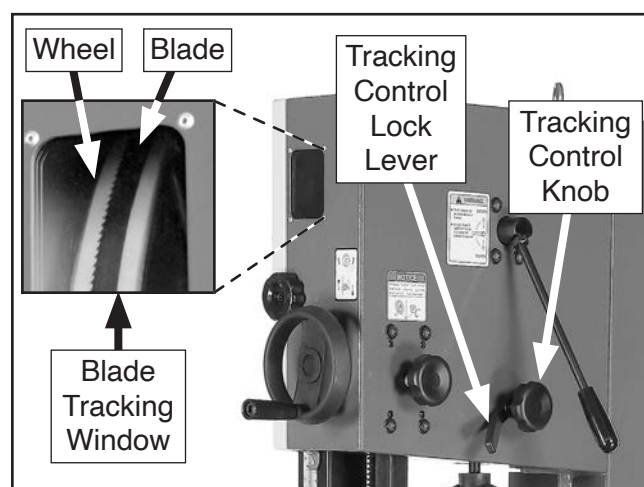

Figure 41. Blade tracking controls.
6. Loosen tracking control lock lever on back of bandsaw (see **Figure 41**).
7. Rotate upper wheel by hand several times and watch how blade rides on wheel (see **Figure 41**).
8. Adjust tracking control knob (see **Figure 41** on **Page This Page**) in small amounts and continue to rotate upper wheel by hand at the same time until blade consistently rides in center of bandsaw tire.